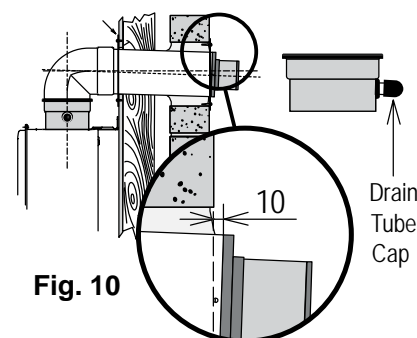

Fig. 10
Ensure the drain tube cap remains fitted in place (Fig. 10).
1. Measure the required length for the horizontal terminal to penetrate the wall and allow an extra 10mm protrusion from the wall outer surface as shown in Fig. 10. See the section "Cutting The Flue Components" on page 3 for correct cutting requirements.